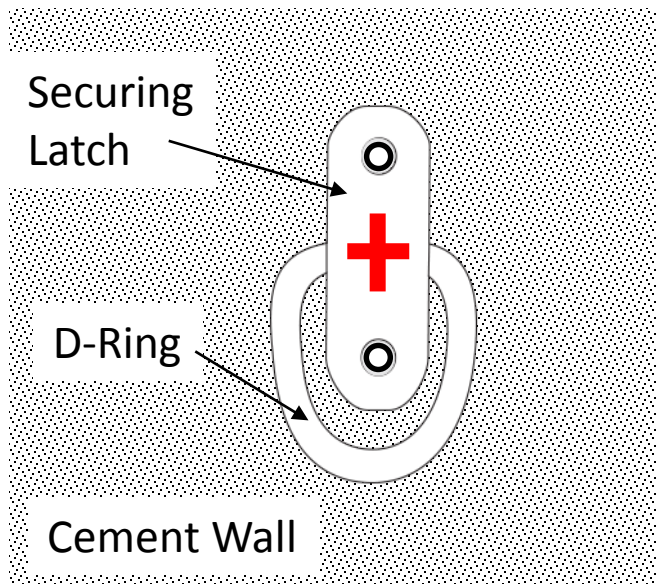
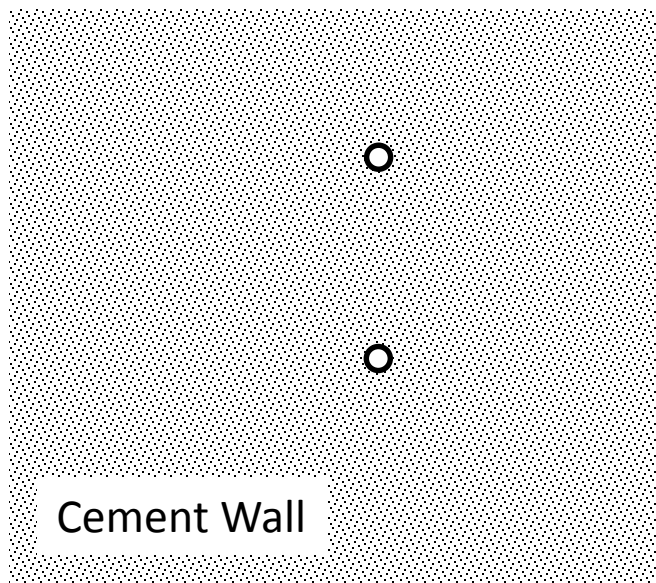
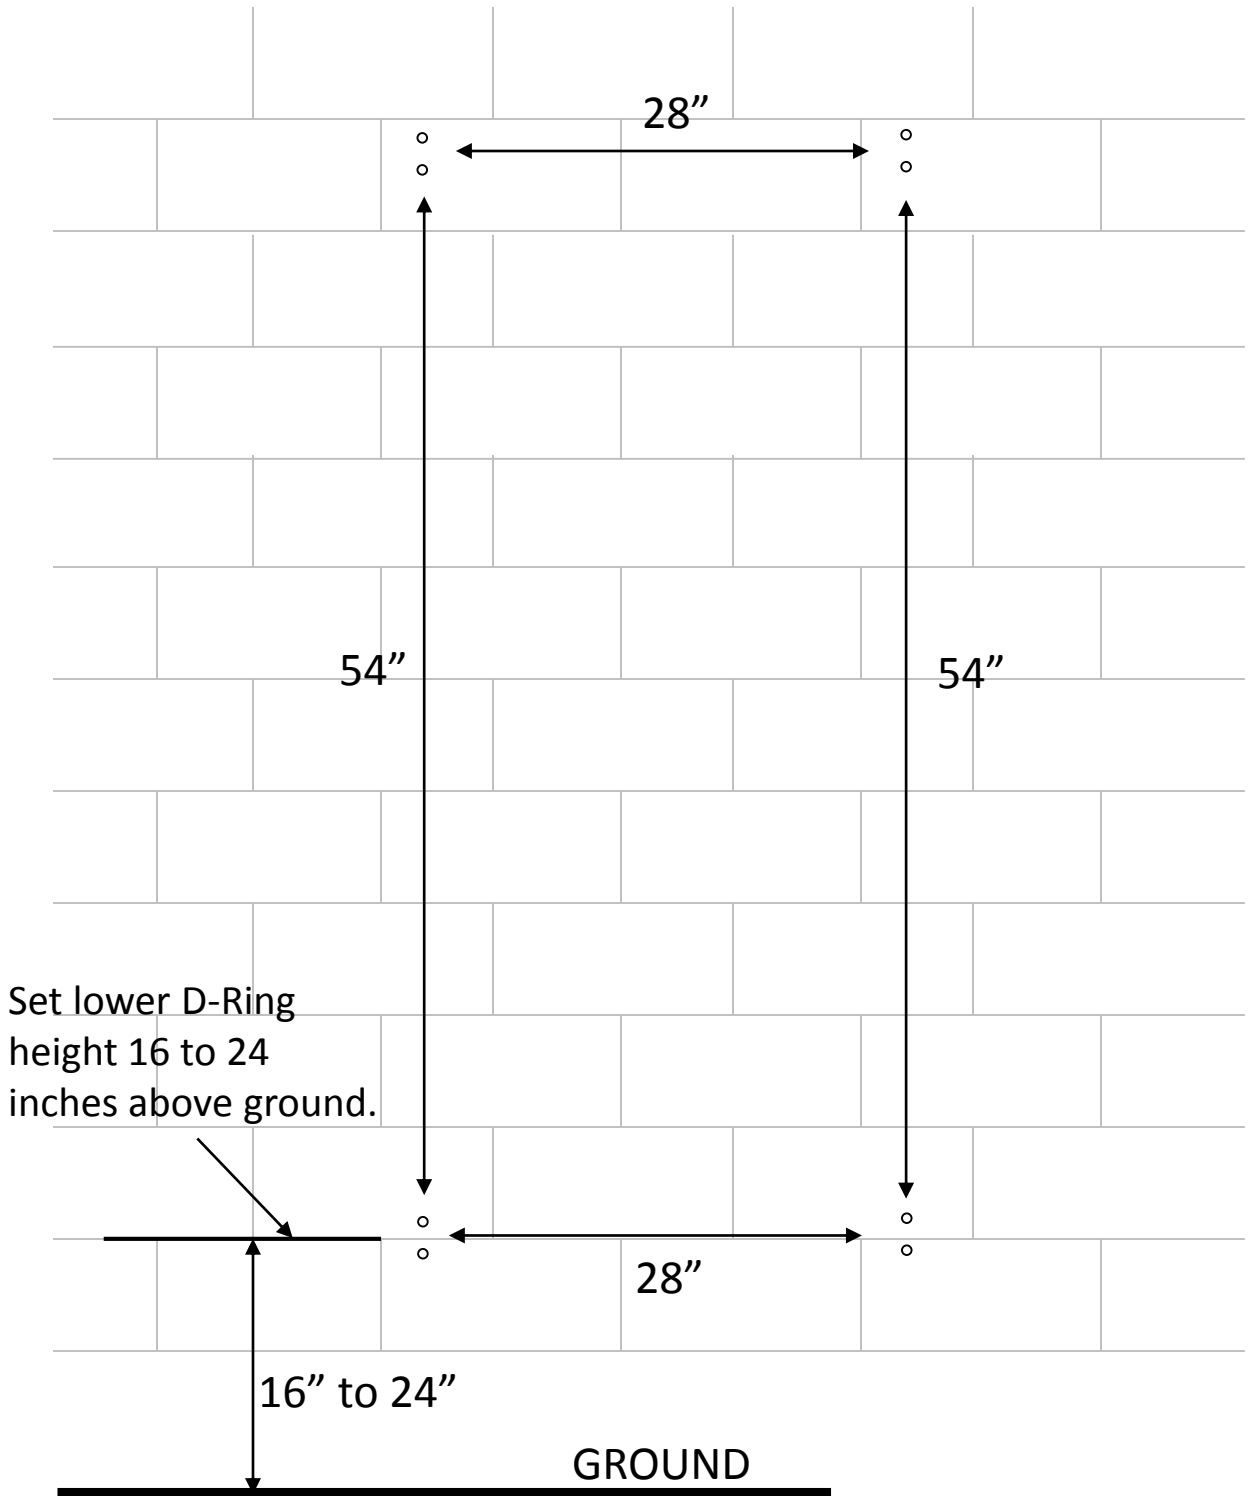
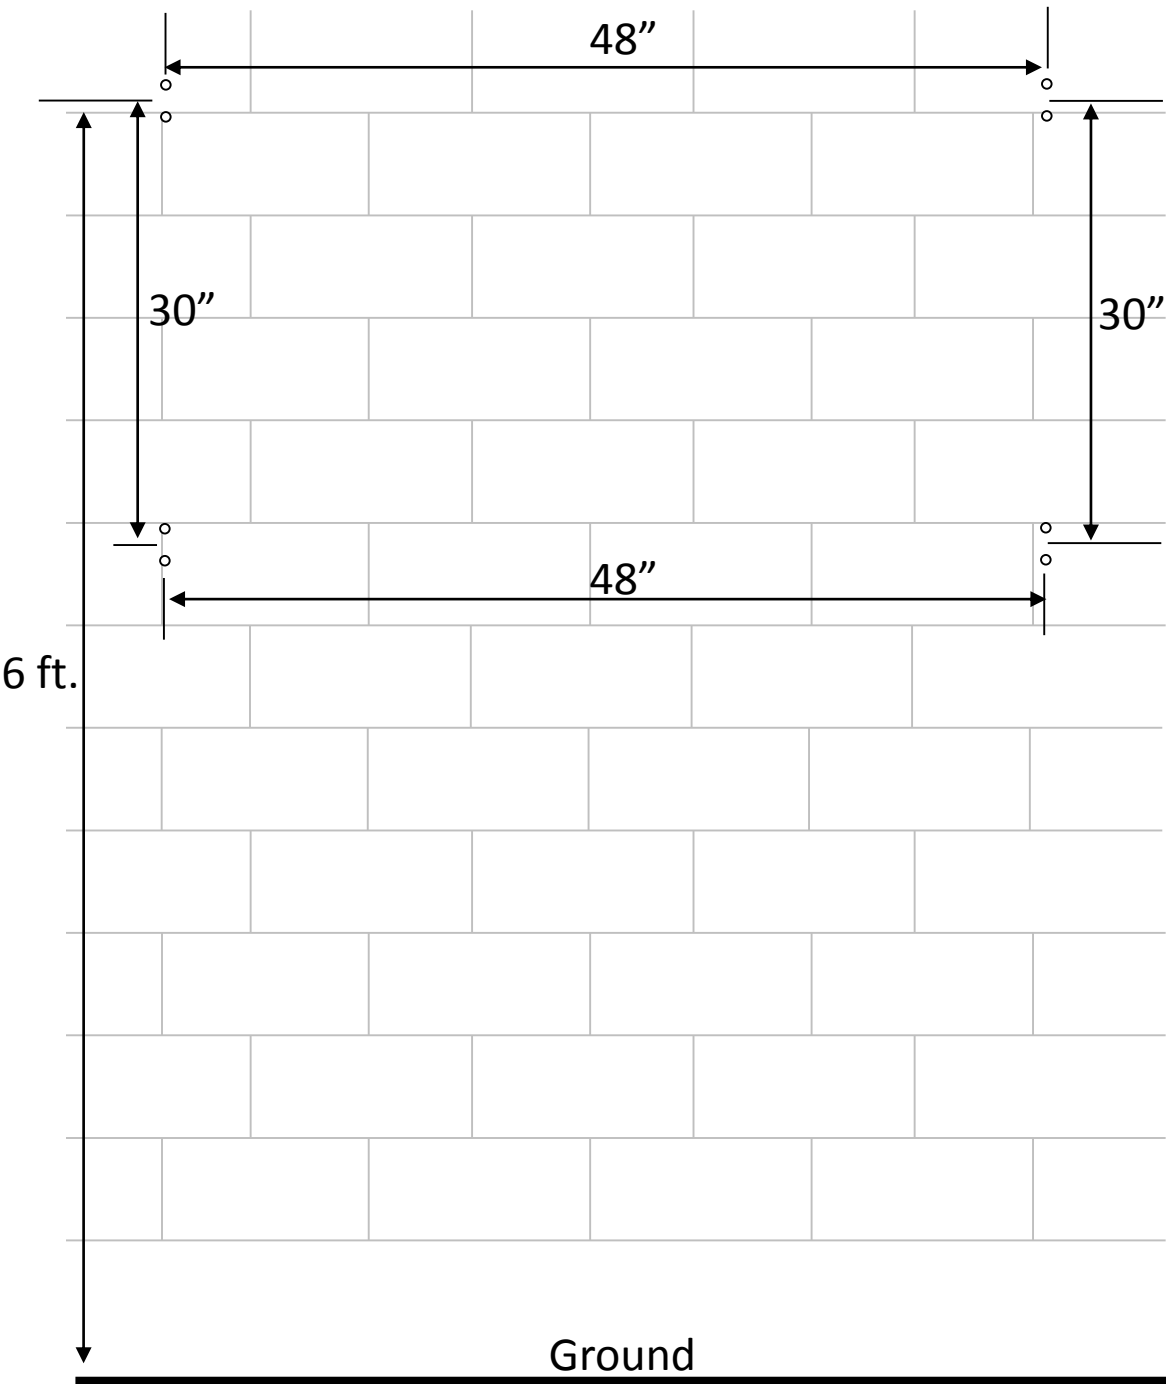

Figure 2
Figure 3
Figure 4
Figure 15
Step 2 - Carefully mark the center of both mounting hole locations on the cement block behind the mounting latch with a marker (see Figures 2 and 3). After marking all four D-Ring locations the markings on the wall indicating drilling locations should appear as in Figure 4.
Step 2 – Sequentially place each of the four D-Rings as shown in Figure 2 over the four reference marks placed on the cinder block wall in Step 1. Using a black marker, trace out the circular mounting holes in the Securing Latch bracket so two small circles (to be used as mounting hole references) for each D-Ring assembly will be left on the wall as shown in Figure 3.
Step 2 – When Step 1 is completed you should have eight drill hole marks on the cement wall as shown in Figure 4 below.
Step 2 - Carefully mark the center of both mounting hole locations on the cement block behind the mounting latch with a marker (see Figures 2 and 3). After marking all four D-Ring locations the markings on the wall indicating drilling locations should appear as in Figure 15.
Step 2 – When Step 1 is completed you should have eight drill hole marks on the wall as shown in Figure 4 below.